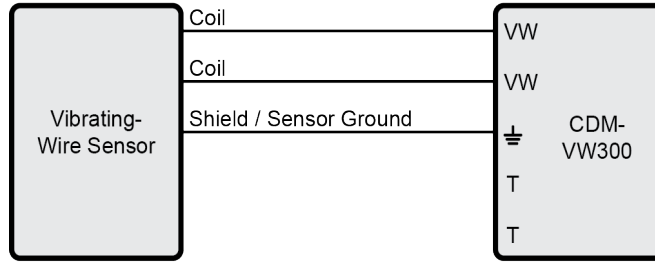

FIGURE 6-3. Three-Wire Sensor Connection Schematic (No Embedded Thermistor)
- Connect the sensors to the CDM-VW300 (FIGURE 6-3 and FIGURE 6-4). For further guidance on connecting sensors, see Section 7.4.1, *Sensor Connections* (p. 19).